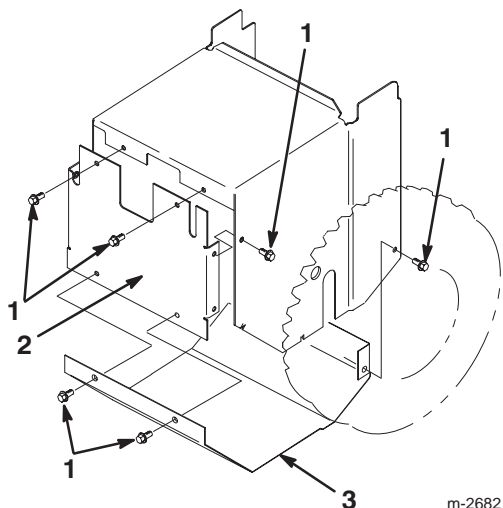

Figure 30
5. Remove the 8 bolts that hold the back and the bottom covers in place and remove the covers (Fig. 30).